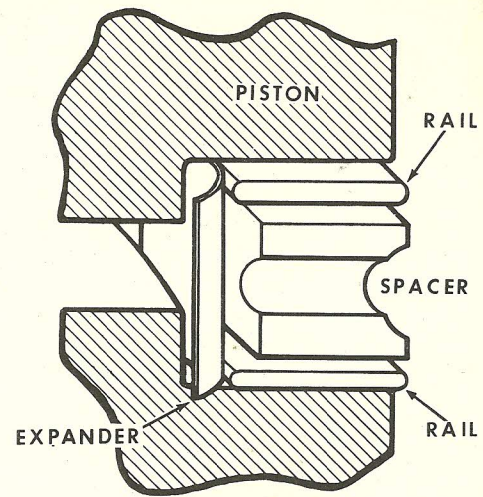

Figure M-32
3. Install the oil ring expander in the bottom groove of piston. Then install the chrome steel rail, cast iron spacer and second chrome steel rail, in the bottom groove of the piston, Figure M-32.